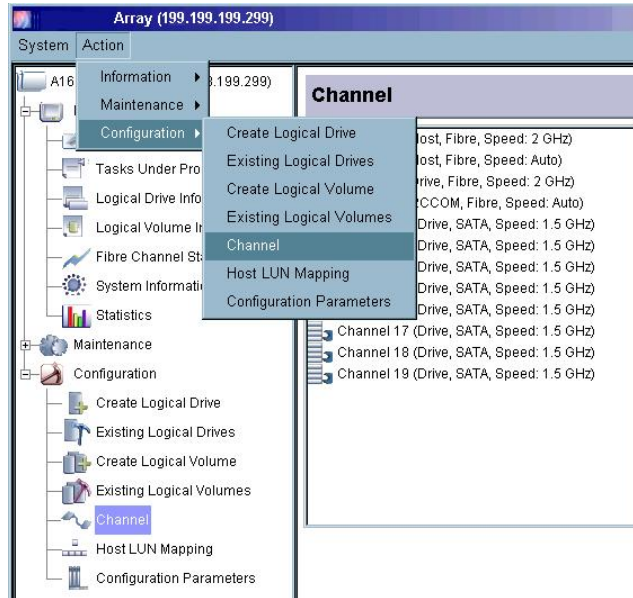

Figure 8-1: Accessing Channel Configuration Window
To be able to access the **Channel** window, use either the command from the “Action” menu or select the **Channel** icon from the navigation panel. (See *Figure 8-1*).
- Step 1.** Single-click under the **Channel** window to select a corresponding channel. Channel icons are displayed in the left-hand side panel of the configuration window. The Channel Settings configuration will appear as two separate tabbed panels on the right-hand side: “*Parameters*” and “*ID*.” (See *Figure 8-1*).